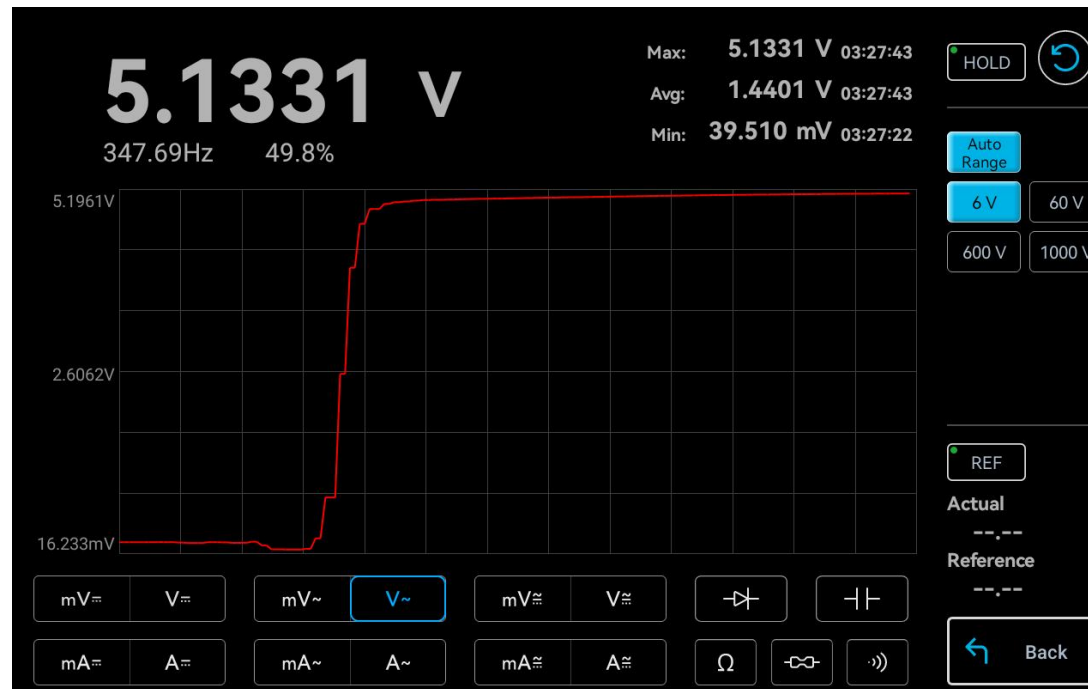

Figure 9-4 AC Voltage Measurement (V)
Test Steps: Select to enable the AC voltage measurement (V) in the measurement item selection area **V~**, as shown in Figure 9-4.